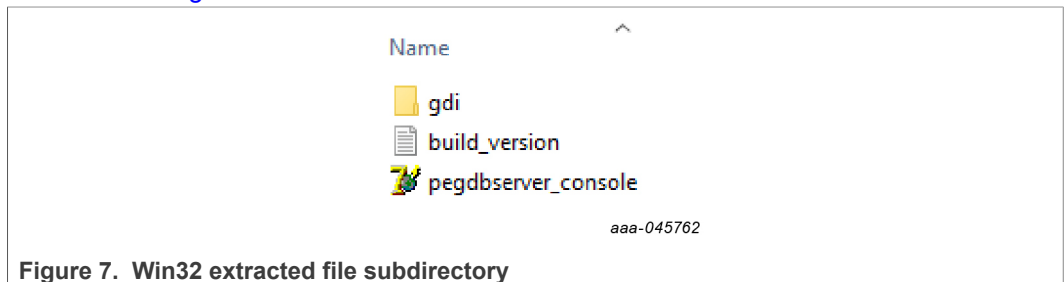

Figure 7. Win32 extracted file subdirectory
4. Navigate to the win32 subdirectory of the extracted file to view the directory structure shown in Figure 7.
6. Copy and paste the files files shown in Figure 7 to the ‘server_win32’ in your ‘Multilink_GDB’ root folder.